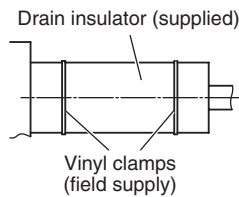

Fig. 1-40
- (2) After connecting the drain pipe securely, wrap the supplied packing and drain pipe insulator around the pipe, then secure it with the vinyl clamps. (Fig. 1-40)